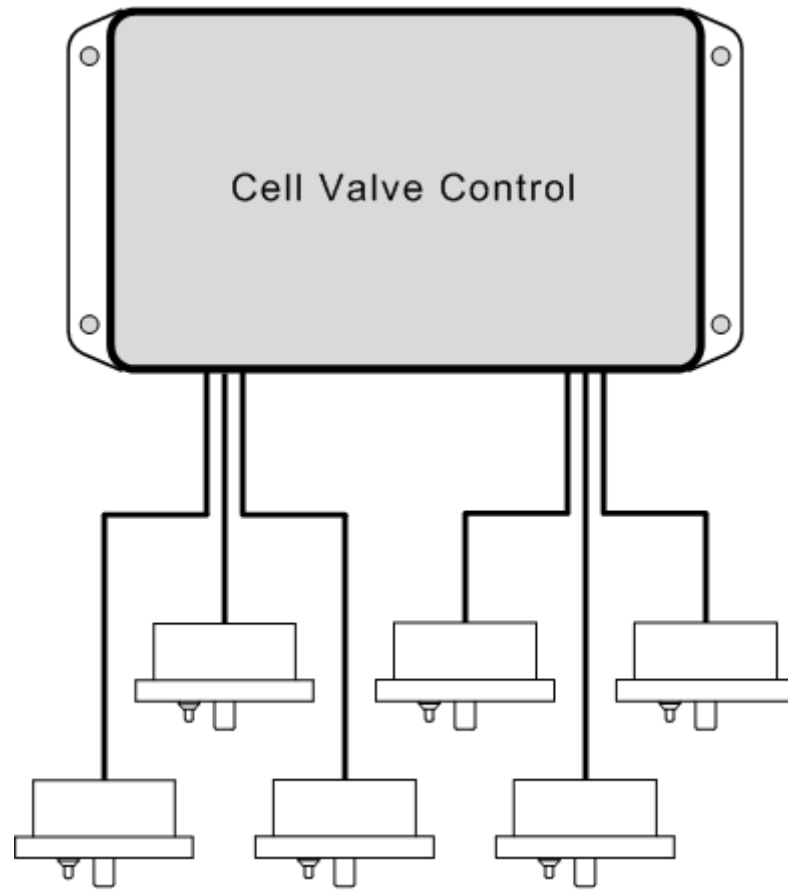

Figure 3 - CVC Connecting to 6 Showers
*Figure 3* illustrates a Cell Valve Controller connected to 6 single-temperature showers. Each shower has 1 push button and 1 plumbing valve. This configuration may be used in either networked or stand-alone mode.